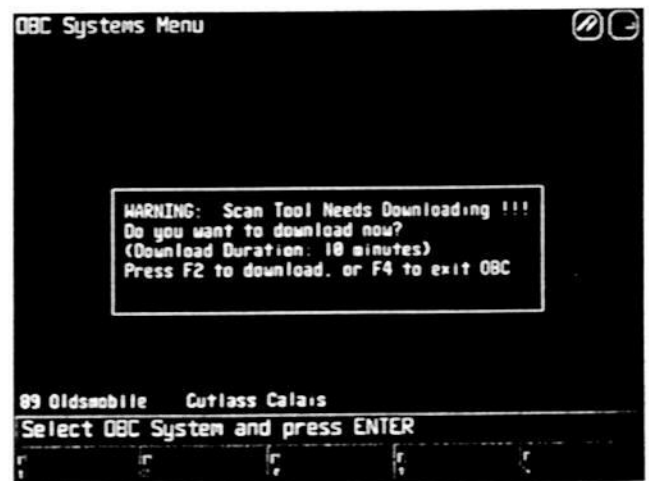

Figure 4-1
2. The "AD-OBC Initializing..." screen will appear. At this point, the analyzer communicates with the Scan Tool, detects the software mismatch, and displays a warning message (see Figure 4-1).
If the warning message in Figure 4-1 appears when the operator accesses the OBC function on the analyzer and no software update has been performed recently, it is most likely the result of a corruption of the Scan Tool's downloadable memory. Press [F2] and the analyzer will correct the problem.